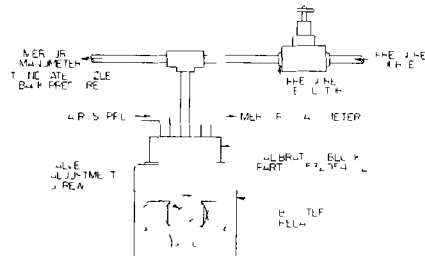

FIGURE 8 - Booster Relay Calibration Setup
The Booster Relay has only one adjustment. The valve adjustment, shown in Figures 8 and 9, adjusts the inlet valve seat to balance the effective areas of the chamber 1 and chamber 4 diaphragms to obtain an even rate of output pressure change. This adjustment is sealed with a drop of Loctite cement (Grade C) after factory calibration. Do not change the setting of this adjustment unless absolutely necessary. If the Relay has been disassembled, or if the setting of the valve adjustment has been changed for any reason, check the calibration of the unit as outlined below.
2. Attach calibration block, Part Number 5320549 2, to Relay using screws removed in step 1, and connect in calibration setup as shown in Figure 8. Connect mercury manometer to Booster Relay output pressure connection on calibration block. Connect another mercury manometer to tee fitting in piping to input connection of calibration block.